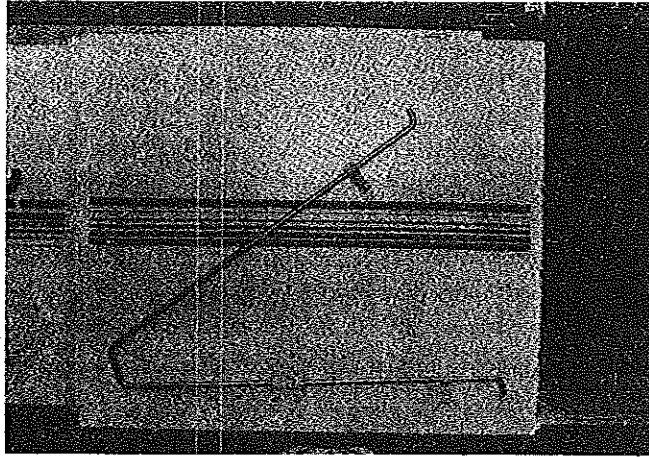

FIGURE 38
41. Locate the stove mounting bracket and remove from storage location on the access door. See Figure 38.